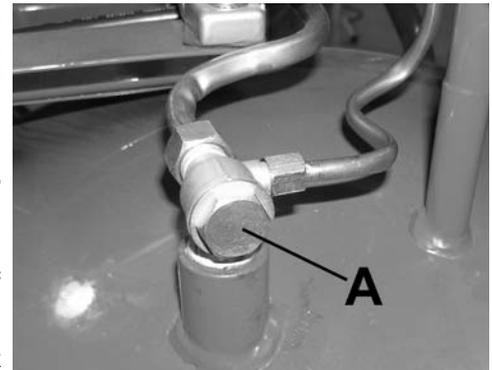

FIGURE 3
**CHECK VALVE (A) FIG.3.** When the air compressor is operating, the check valve is “open”, allowing compressed air to enter the air tank. When the air compressor reaches “Cut-Out” pressure, the check valve “closes”, allowing air pressure to remain inside the air tank.